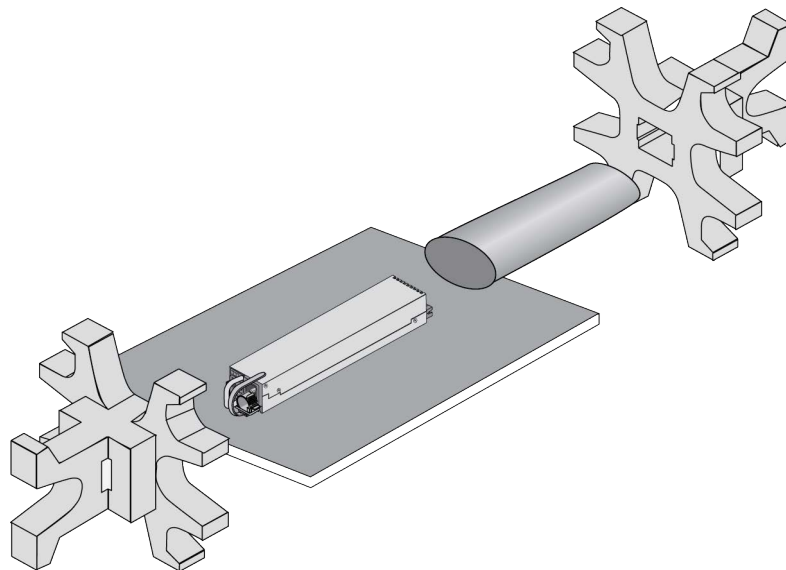

Figure 37. Removing the Power Supply from the Shipping End-caps and Protective Bag
4. Remove the power supply from the shipping end-caps and protective shipping bag. Refer to Figure 37.